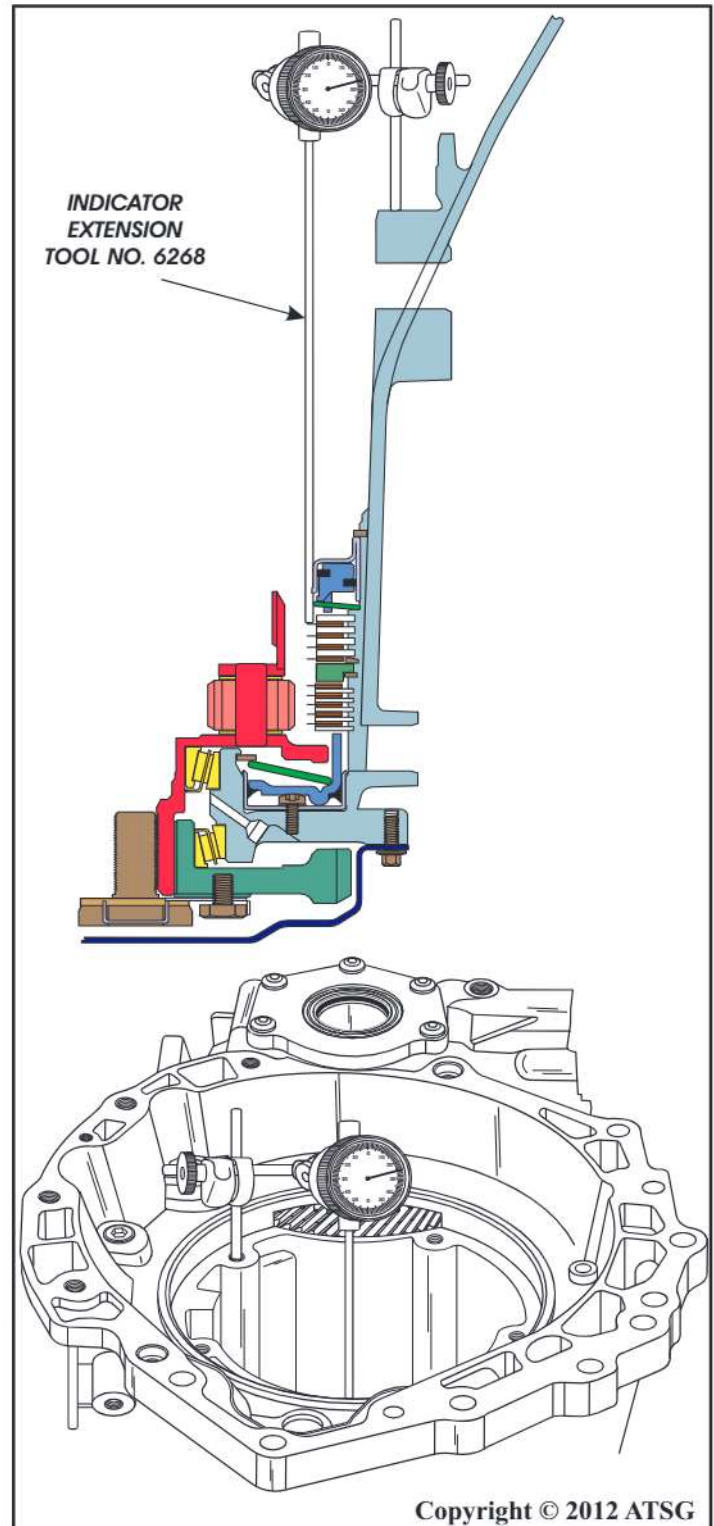

Figure 251
43. Mount a dial indicator to the case and zero the indicator against tooth of the 2-4 friction plate, as shown in Figure 251.